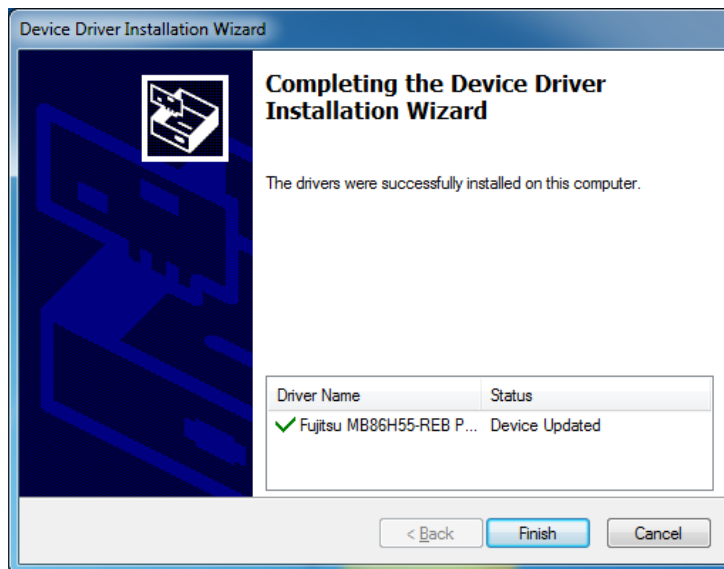

Figure 1-5: Driver Installation Complete
Step 8: When the driver installation is complete, the screen in Figure 1-5 appears. Click the **Finish** button to finish driver installation.